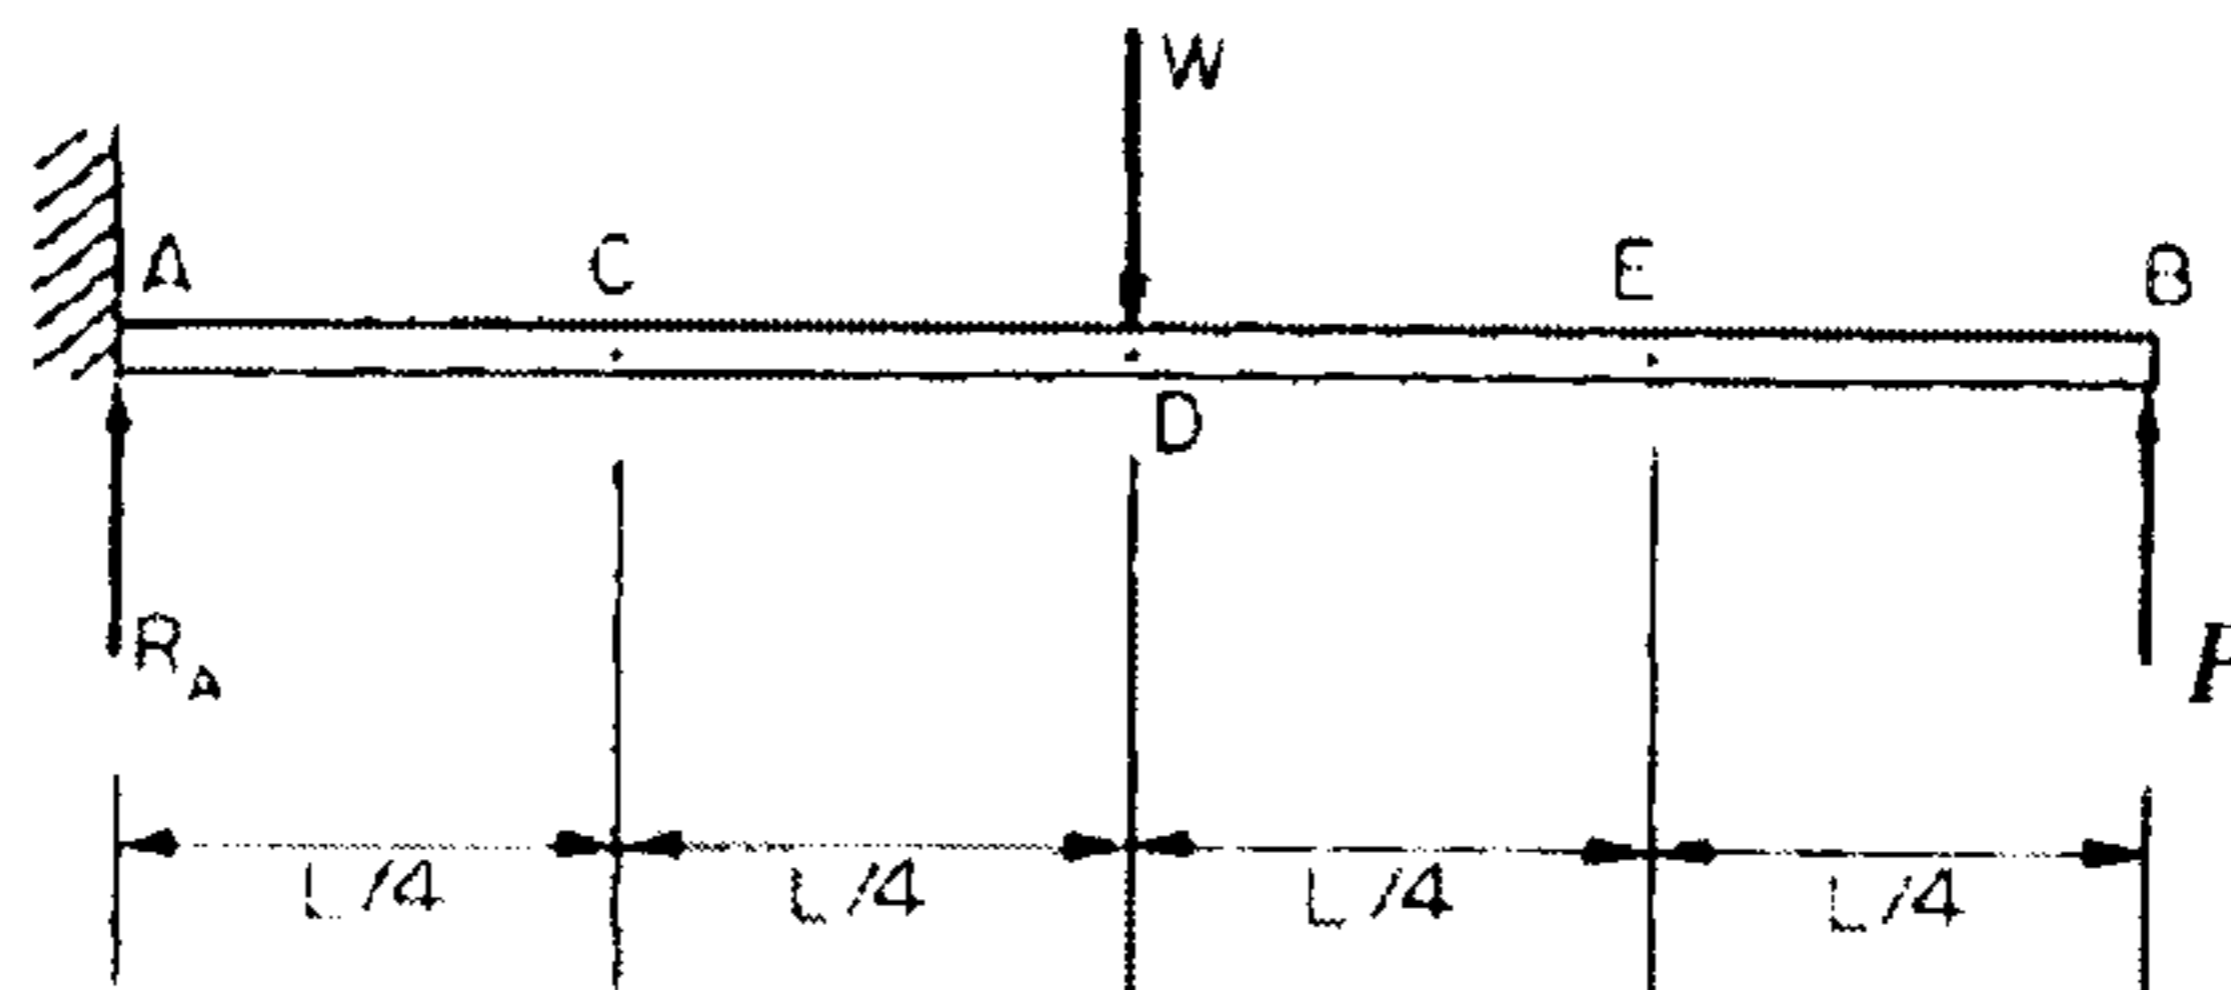

Figure 2
2. a) The statically indeterminate propped cantilever shown in Figure 2 is propped at B and carries a central load W. It can be assumed to have a constant flexural rigidity EI throughout. Determine the value of the reaction at the prop. 7 M